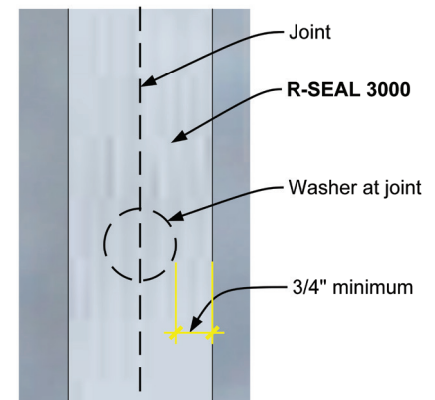

Figure 6
H. **Joint Fasteners:** Fully cover with R-SEAL 3000 to maintain a minimum of 3/4" adhesion to facer beyond washer edges. **Reference Figure 6.**
I. **Field Fasteners:** When NOT using Trufast Walls Thermal-Grip®ci Prong Washers and Grip-Deck® Self-Drilling Screws, field fasteners must be covered by R-SEAL 3000. Maintain a minimum 3/4" adhesion radially beyond washers, similar to **Figure 6.**